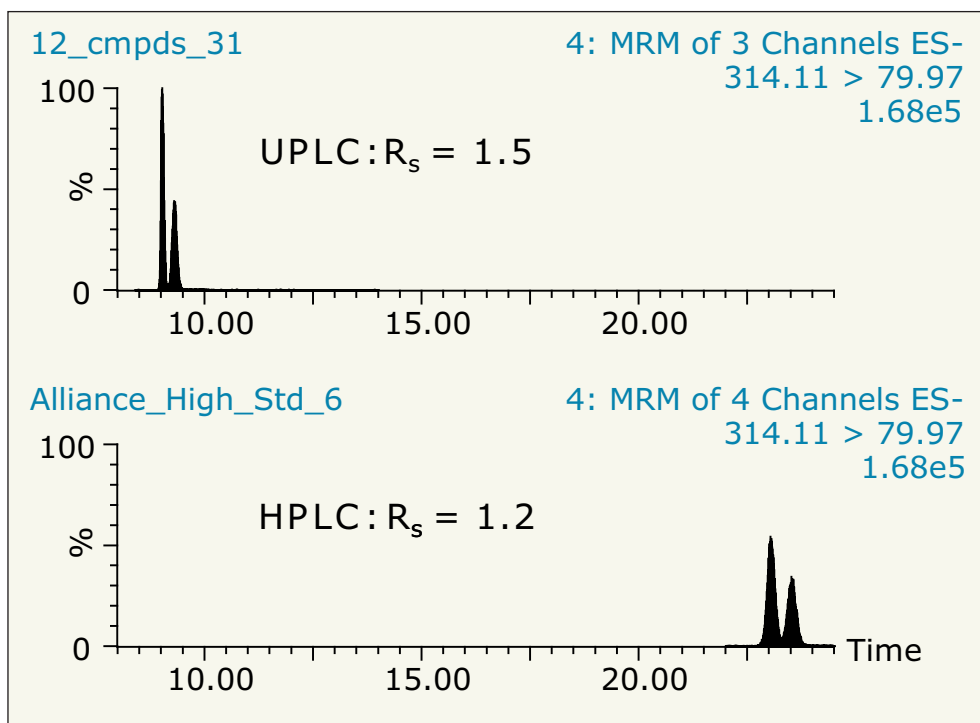

Figure 3. Comparison of resolution of Alachlor ESA and Acetochlor ESA obtained on UPLC (top) and HPLC (bottom).
- Two of the analytes in this method, alachlor ESA and acetochlor ESA, are structural isomers and are monitored using the same MRM transition (314 > 80). Therefore, chromatographic separation is required. The method states that these analytes must be separated chromatographically with a resolution (R_s) of 1.0 or greater. The resolution obtained on the UPLC/MS/MS System is superior to that obtained with HPLC/MS/MS and surpasses the method requirement of $R_s > 1$ for these compounds, as shown in Figure 3 on page 10.
The resolution obtained on the UPLC/MS/MS System is superior to that obtained with HPLC/MS/MS and surpasses the method requirement of $R_s > 1$ for these compounds, as shown in Figure 3.